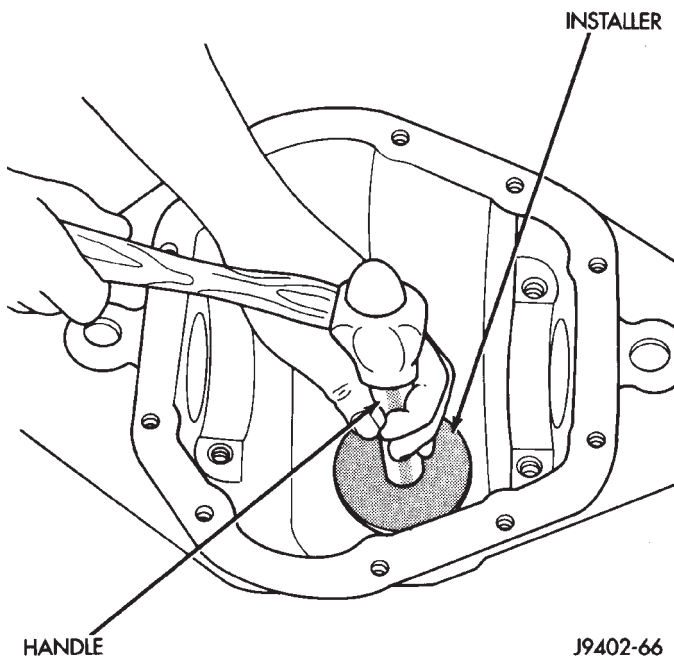

Fig. 40 Pinion Rear Bearing Cup Installation
(1) Apply Mopar® Door Ease, or equivalent, stick lubricant to outside surface of bearing cup.
(2) Install the pinion rear bearing cup with Installer D-146 and Driver Handle C-4171 (Fig. 40). Ensure cup is correctly seated.
(3) Apply Mopar® Door Ease, or equivalent, stick lubricant to outside surface of bearing cup.